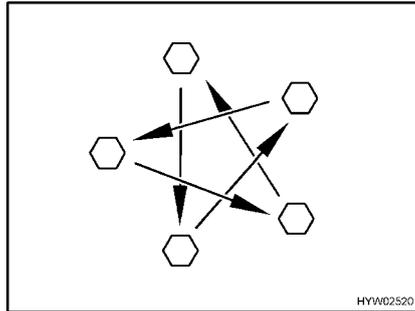

Fig. 300 Tighten the wheel nuts or wheel bolts cross-wise
- Check regularly that the wheel nuts or wheel bolts are firmly seated. Re-tighten the wheel nuts or wheel bolts of a changed wheel after 50 km (30 miles) (Fig. 300).
- When using new or newly painted rims, re-tighten the wheel nuts or wheel bolts once again after approx. 1,000 to 5,000 km (600 miles to 3,000 miles) (Fig. 300).
- ▷ Tighten the wheel nuts or wheel bolts cross-wise (Fig. 300).